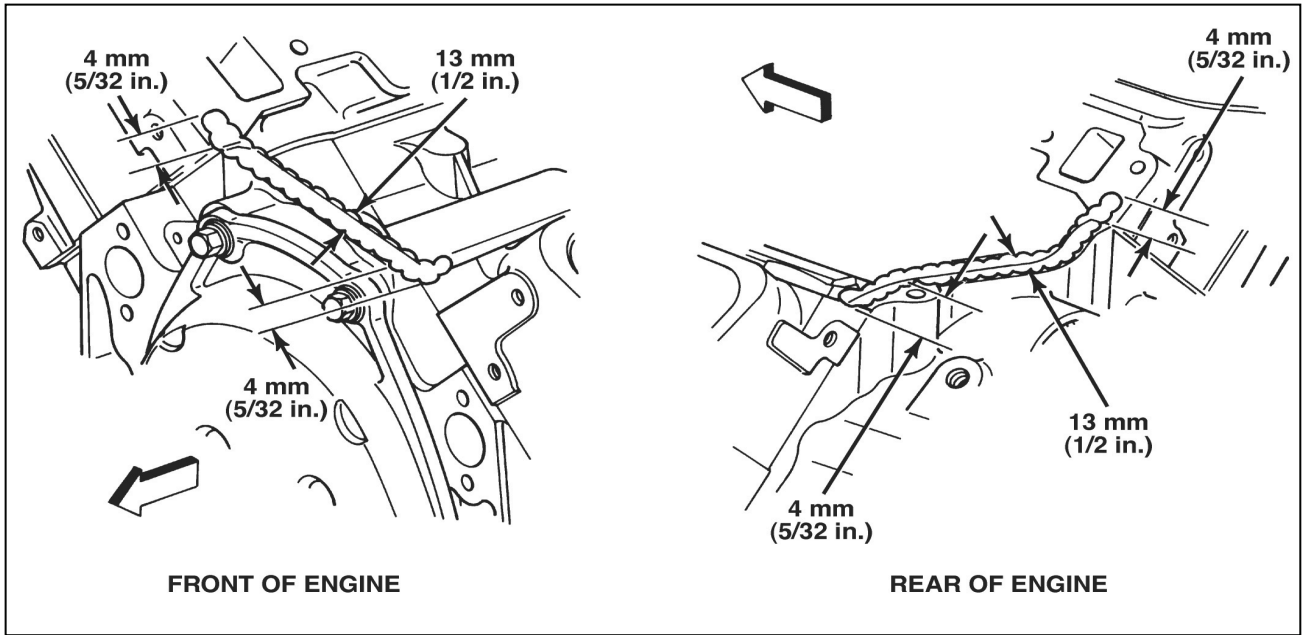

Figure 12-89 Intake Manifold Sealer Application
Figures 12-89 and 12-90
2. RTV to the front and rear sealing surfaces on the block. Apply a 13 mm (1/2 in.) bead of RTV (GM P/N 1052366) or equivalent to the front and rear of the block as shown in figure 12-89. Extend the bead 4 mm (5/32 in.) up each cylinder head to seal and retain the gaskets.